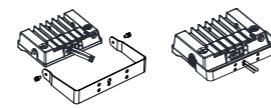

figure 8.1
8.1 Install slip fitter mount (AM) through yoke mount (FM) supporter(suitable for 15W-150W) (b=AF2/AF1)
Step 1: pass the core wire through the hole of the FM support, and then tighten hexagon socket screw, and then . (figure 8.1)